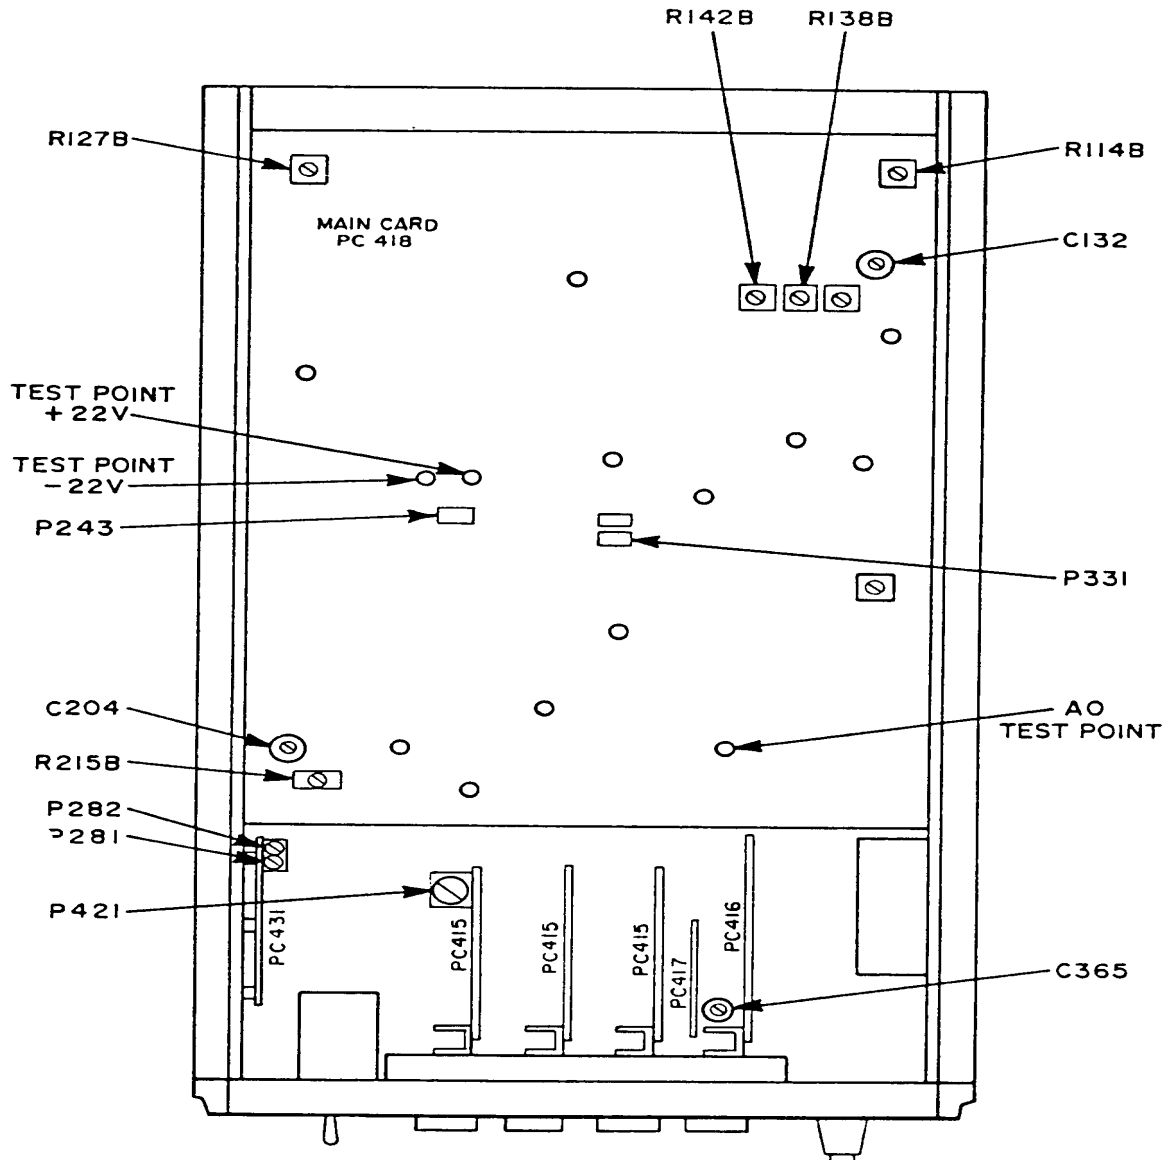
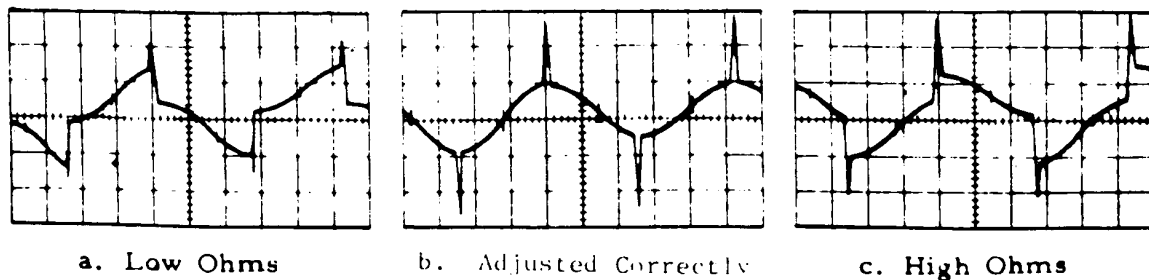
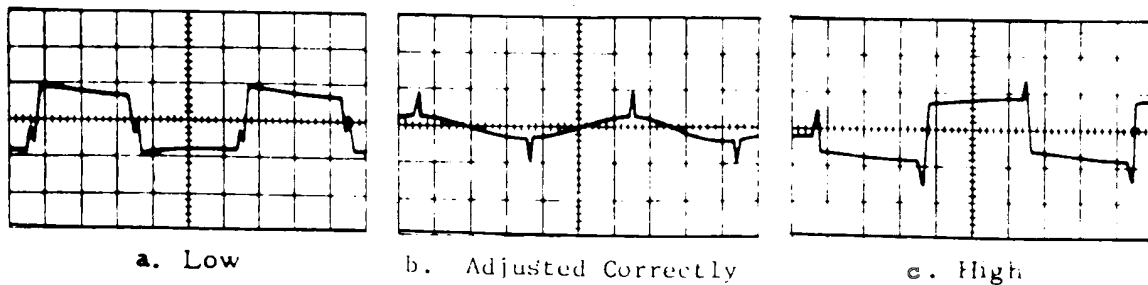

Figure 1. Test instrument - top view.
Figure 2. AO at 100 Hz (vertical sensitivity - 20 mV/cm).
Figure 3. AO at 9 Hz (vertical sensitivity 50 mV/cm).
- (1) Press **FREQUENCY Hz** pushbuttons to indicate 1-0-0 and press **MULTIPLIER 1000** pushbutton.
- (2) Adjust C365 (fig. 1) until frequency counter indicates 100,000 Hz (R).
- (3) Position **FREQUENCY Hz** pushbuttons to indicate 4-0-0.
- (4) Adjust C204 (fig. 1) until frequency counter indicates 400,000 Hz (R).
- (5) Position **FREQUENCY Hz** pushbuttons to indicate 9-9-9.
- (6) Adjust R215B (fig. 1) until frequency counter indicates 999,000 Hz (R).
(1) Connect oscilloscope to test point AO (fig. 1) located on PC418 card using probe.
(2) Position **FREQUENCY Hz** pushbuttons to indicate 1-0-0 and press **MULTIPLIER 1** pushbutton. If square wave component in the signal present at test point AO is not less than 10 mV, adjust P331 (fig. 1) for minimum signal (R). Typical oscilloscope presentation is shown in figure 2.
(3) Position **FREQUENCY Hz** pushbuttons to indicate 0-9-0 and press **MULTIPLIER .1** pushbutton. If square wave component (fig. 3) in the signal present at test point AO is not less than 100 mV p-p, adjust P421 (fig. 1) for minimum signal (R).
(4) Press **MULTIPLIER 10** pushbutton, and adjust R142B (fig. 1) for a 0 V dc output level (R).
b. Adjustments. Adjust R138B (fig. 1) until true rms voltmeter indicates 9.000 V (R).
- (1) Connect ~ **OUTPUT** to true rms voltmeter.
- (2) Set **RMS VOLTS** vernier control fully ccw.
- (3) Press **FREQUENCY Hz** pushbuttons to indicate 9-9-9 and press **MULTIPLIER 1000** pushbutton.
- (4) Adjust C132 (fig. 1) until true rms voltmeter indicates 9.00 V (R).
(5) Press **FREQUENCY Hz** pushbutton to indicate 1-0-0 and press **MULTIPLIER 10** pushbutton.
(6) Adjust **RMS VOLTS** vernier control for a 9 V indication on true rms voltmeter.
(7) Press **MULTIPLIER 1000** pushbutton.
(8) Adjust P243 until rms voltmeter indicates 9.00 V (R).
(1) Adjust P281 (fig. 1) for a symmetrical waveform (R).
(2) Adjust P282 (fig. 1) for optimum 0 dc level (R).
(2) Connect multimeter between +22 V test point and ground (fig. 1). If multimeter does not indicate between 21 and 23 V dc, perform **b** (1) below.
(3) Repeat (2) above for -22 V test point (fig. 1). If multimeter does not indicate between -21 and -23 V dc, perform **b** (2) below.
(1) Adjust R114B (fig. 1) to obtain +22 V indication on multimeter (R).
(2) Adjust R127B (fig. 1) to obtain -22 V indication on multimeter (R).